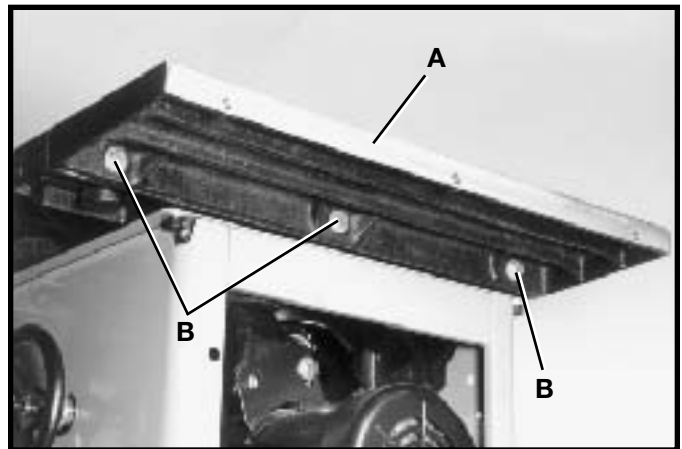
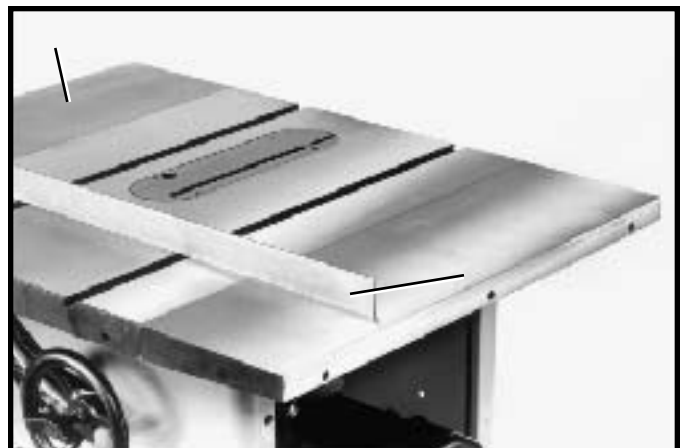

Fig. 9
Fig. 10
Assemble extension wing (A) Fig. 9, to the right hand side of the saw table using three 1-1/4 inch-long hex head screws (B) and flat washers supplied. Use a straight edge (C) Fig. 10, to make certain the extension wing is level at the front and rear of the saw table before tightening three screws (B) Fig. 9. **NOTE:** Make certain the left extension wing (D) is also level with saw table in the same manner.